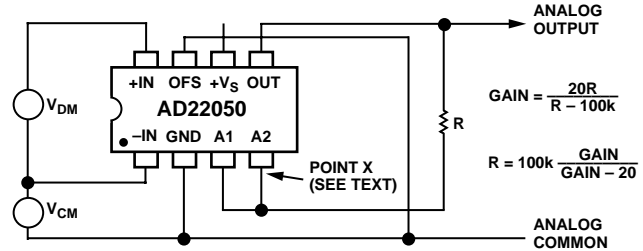
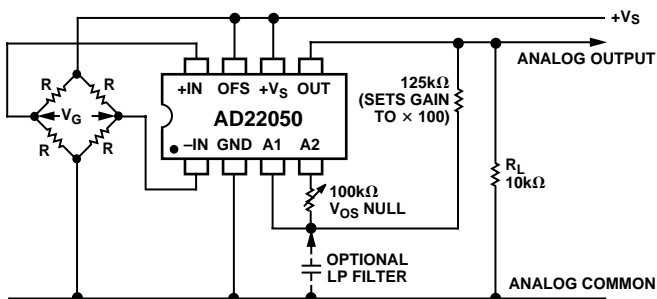

Figure 5. Achieving Gains Greater Than  $\times 20$
Figure 12. Typical Connections for a Strain Gage Interface Using the Offset Feature
**Increasing the Gain.** The gain can be raised by connecting a resistor from the output of the buffer amplifier (Pin 5) to its noninverting input (Pin 4) as shown in Figure 5. The gain is
Once again, a small offset voltage will arise from an imbalance in source resistances and the finite bias currents inherently present at the input of A2. In most applications this additional offset error (about  $130 \mu\text{V}$  at  $\times 40$ ) will be comparable with the specified offset range and will therefore introduce negligible skew. It may, however, be essentially eliminated by the addition of a resistor in series with the parallel sum of  $\text{R}$  and  $100 \text{ k}\Omega$  (i.e., at "Point X" in Figure 5) so the total series resistance is maintained at  $100 \text{ k}\Omega$ . For example, at a gain of  $\times 30$ , when  $\text{R} = 300 \text{ k}\Omega$  and the parallel sum of  $\text{R}$  and  $100 \text{ k}\Omega$  is  $75 \text{ k}\Omega$ , the padding resistor should be  $25 \text{ k}\Omega$ . A  $50 \text{ k}\Omega$  pot would provide an offset range of about  $\pm 2.25 \text{ mV}$  referred to the output, or  $\pm 75 \mu\text{V}$  referred to the attenuator input. A specific example is shown in Figure 12.
If the gain is raised using a resistor, as shown in Figure 5, the corner frequency is lowered by the same factor as the gain is raised. Thus, using a resistor of 200 k $\Omega$  (for which the gain would be doubled) the corner frequency is now 0.796 Hz- $\mu$ F, (0.039  $\mu$ F for a 20 Hz corner).
The AD22050 can be used to interface a strain gage to a subsequent process where only a single supply voltage is available. In this application, the midscale offset feature is valuable, since the output of the bridge may have either polarity. Figure 12 shows typical connections.
An ac excitation of up to  $\pm 2$  V can also be used because the common-mode range of the AD22050 extends to  $-1$  V. Assuming a full-scale bridge output ( $V_G$ ) of  $\pm 10$  mV, a gain of  $\times 100$  might be used to provide an output of  $\pm 1$  V (a full-scale range of +1.5 V to +3.5 V). This gain is achieved using the method discussed in connection with Figure 5. Note that the gain-setting resistor does not affect the accuracy of the midscale offset. (However, if the gain were lowered, using a resistor to ground, this offset would no longer be accurate.) A  $V_{OS}$  nulling pot is included for illustrative purposes. One-, two- and three-pole filtering can also be implemented, as discussed in the Low-Pass Filtering section.
A unique method of feedback around A1, provided by R9 and R7, sets the closed-loop gain of the preamplifier to  $\times 10$  (from the input pins). The feedback network is balanced by the inclusion of R6 and R8. The small value of R7 results in a more practical value for R9 (which would have to be 2 M $\Omega$  if the feedback were taken directly to the inputs of A1). R8 is not directly connected to ground, but to an optional voltage of one half that is applied to Pin 7 (OFS). It is trimmed to within close tolerances through R10 and R11. This allows the output of A1 to be offset to midscale, typically  $+V_S/2$ , by tying Pins 6 and 7 together. (For an example of the use of this feature, see Figure 12.) The gain is adjusted by the single resistor R5, which acts only on the differential signal. More importantly, it also results in much less feed forward of the common-mode signal to the output of A1, which, being a single-supply circuit, has no means of pulling this output down toward ground in those circumstances where the common-mode input is very positive while the net differential signal is small. (The output of A1 is the collector of a PNP transistor whose emitter is tied to  $+V_S$ .) R16 is specifically included to alleviate this problem.